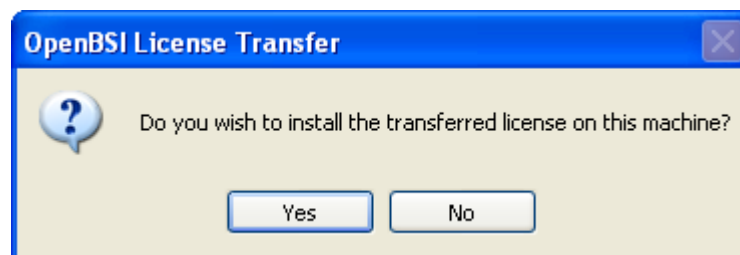

Figure 2-24. Confirm Transferred License
13. The License Manager prompts you to confirm you want to install the transferred license. Click **Yes**. (See Figure 2-24.)